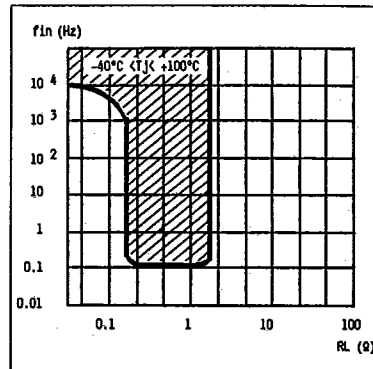

Figure 20. SOA for load resistance vs. input frequency. $V_{CC} = +5V$.
Due to a slight delay in the circuit, a high current transient will occur when the output is shorted to GND. This current transient may reach 8A during 5 μ s. Consequently, switching at high frequencies with a shorted output may destroy the circuit. To prevent destruction of the device in such cases, input switching frequency should be lowered to a safe value or inhibited completely. See figures 20 through 24 "Safe operating areas."
- When switching and an error is detected, immediately decrease the switching frequency. If the error is a short circuit to ground, continued switching may result in an operating point outside the safe operating area, which will shorten life expectancy of the device. See figures 20 through 24.
- For resistive loads, the maximum input frequency can be found in figures 20 through 24. The figures show safe operating areas (SOA) for different supply voltages. The left side of the SOA areas shows correctly working short-circuit protection without exceeding thermal limitations due to repetitive high current transients. The right SOA area shows correctly working driver without exceeding the $I_{out} = 2A$ limit. The shaded area represents a non-safe area. The limit is set by the short-circuit transients, currents that form a high average level due to short-circuit detection delays. This results in temperatures exceeding the maximum ratings and consequently reducing the life expectancy. Note that, for switching frequencies below 0.1Hz, any load can be tolerated.